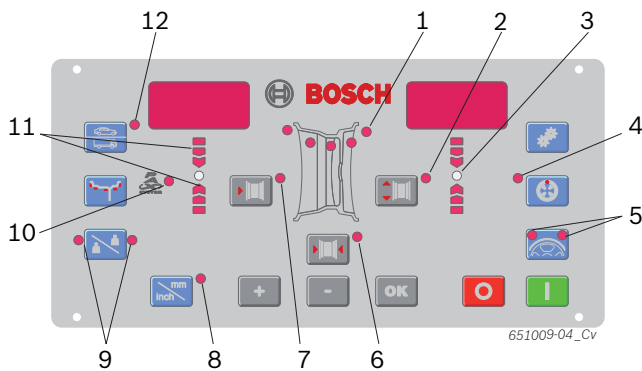

Fig. 4: LEDs on control/display panel
- ➔ The LEDs (Fig. 4, Item 1) indicate the positions of the balancing planes for each balancing program.
ii If a PAX balancing program has been selected, the pax LED also lights (Fig. 4, Item 10).
2. Select the rim distance determined by way of the <-> or <+> rim distance key (Fig. 4, Item 7).
4. Select the measured rim width using the <-> or <+> button for rim width (Fig. 4, Item 6).
6. Select the rim diameter determined by way of the <-> or <+> rim diameter key (Fig. 4, Item 2).
- ⇒ Both LEDs of the **<SPLIT>** key (Fig. 4, Item 5) light.